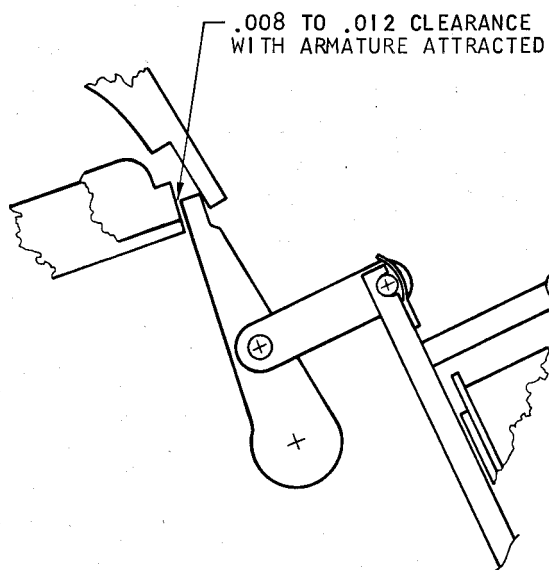

Figure 9. Clutch Unlatching Clearance
- b. With the armature fully attracted, there should be unlatching clearance of .008" to .012" (Figure 9).